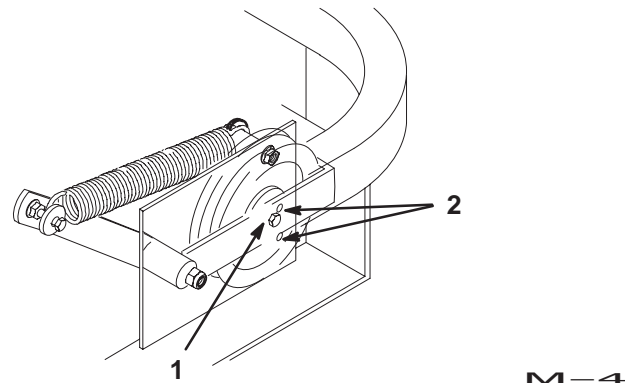

Figure 61
6. Check belt tension. The center bolt of spring loaded idler must be between the two alignment holes in left support plate (Fig 61).
Check position of center bolt in a High Height of Cut. The center bolt must be at or above the lower adjustment hole (Fig 61).
- Check belt tension again. The center bolt of spring loaded idler must be between the two alignment holes in left support plate (Fig 61). Adjust, if necessary, and tighten all hardware securely.